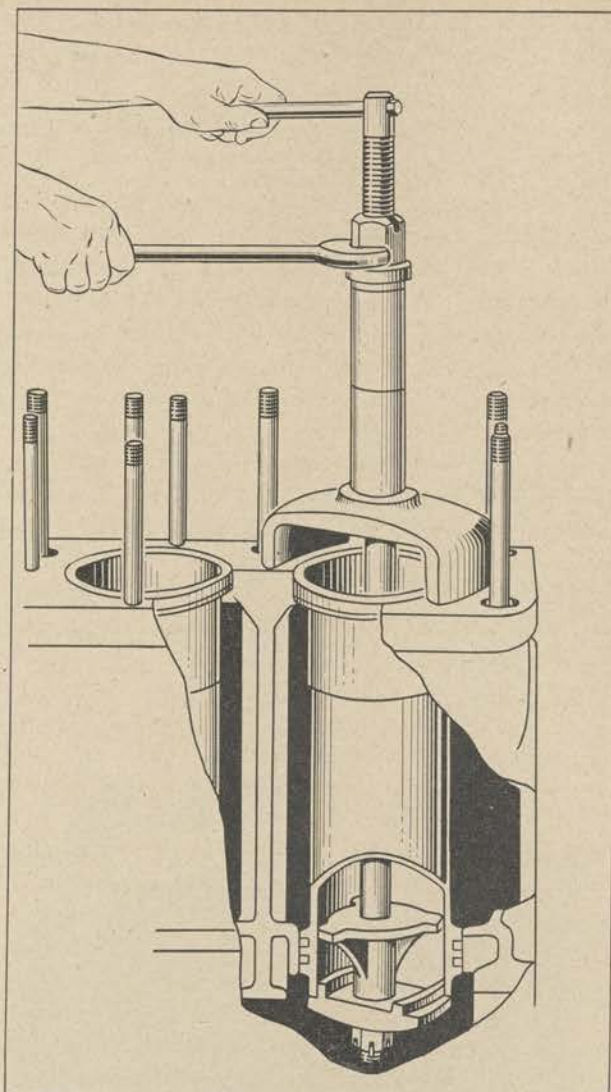

Figure 157. Cylinder liner removal.
2. *Removing cylinder liners.* Before attempting to remove the cylinder liner, protect the crankshaft bearings with clean cloths to prevent water jacket sediment from entering the oil passages and bearings. Figure 157 illustrates the necessary tools and the method of removing the liner.
Thoroughly clean the upper and lower sealing surface of the block to be sure the chamfer around the top of the lower bore is smooth, to prevent cutting the rubber seals when the liner is installed. Before installing it, place the rubber seals in the grooves on the liner, and coat with a mixture of soap and water. Lower the liner carefully into the cylinder block, using the cylinder liner removal tool, shown in figure 157. With the liner properly installed, it should extend slightly above the top face of the cylinder block. This insures proper holding and sealing of